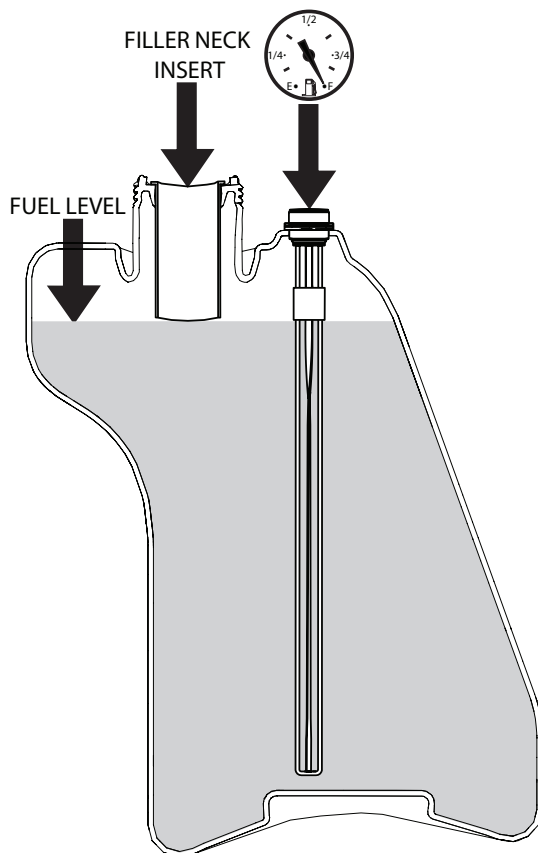

Figure 7-5. C.A.R.B. / EPA Phase 3 Fuel Level
Fill the fuel tank at the beginning of each operating day. For EPA Phase 2 (produced prior to 1/1/2011) models, fill to within one (1) inch below the filler neck. For Low Emission (LE) and EPA Phase 3 (produced after 1/1/2011) models, fill to the bottom of the filler neck insert (approximately 8 gallons indicating Full (F) on the fuel gauge) at the beginning of each operating day. See Figure 7-5. Do not overfill. Use clean, fresh unleaded gasoline with a minimum octane rating of 87 and a maximum of 10% Ethanol.